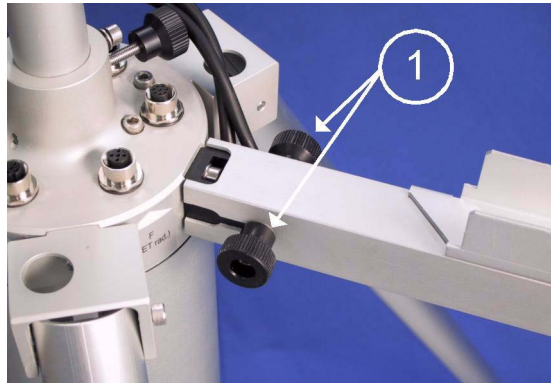

Figure 96 **Sensor Arm Assembly**
11. Attach the sensor arm(s). Fit the cables into the opening below the sensor arm before tightening the hand screws (number 1 in Figure 96 on page 104).